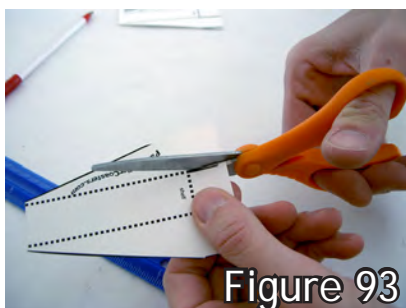

Figure 93
1. Cut along the solid lines. (fig. 93) Discard the shaded sections.